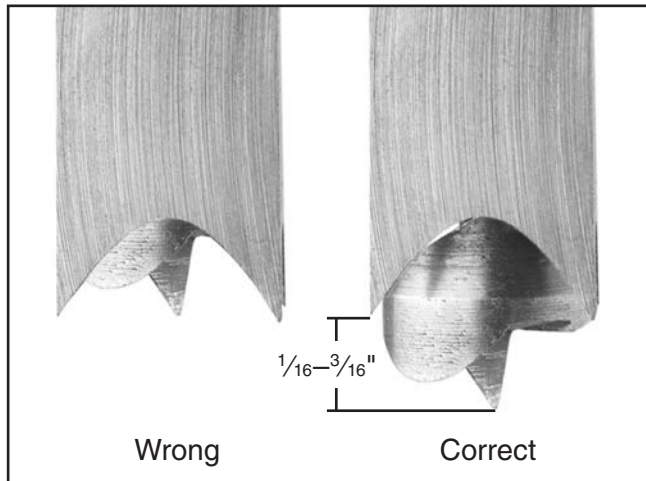

Figure 13. Drill bit extension.
3. Chuck up the bit so it extends $\frac{1}{16}$ – $\frac{3}{16}$ " beyond the chisel (**Figure 13**). The correct distance depends on the wood type and operation.